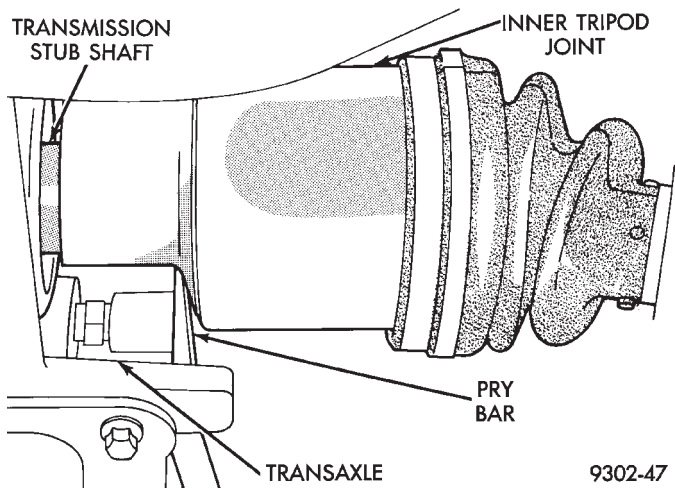

Fig. 5 Inner Tripod Joint Removal From Stub Shaft
(7) Dislodge inner tripod joint from stub shaft retaining snap ring on transaxle assembly (Fig. 5). Inner tripod joint is dislodged from stub shaft retaining snap ring, by inserting a pry bar between transaxle case and inner tripod joint and prying on tripod joint. **Only disengage the inner tripod joint from the retaining snap ring. Do not attempt to remove the inner tripod joint from the transmission stub shaft at this time.**